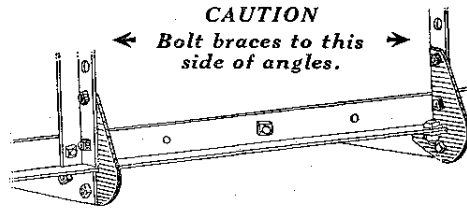

Figure 7
2. Bolt on brace plates (loosely). Be careful to bolt them to the **wide side** of angles as shown by shaded parts in Figure 7.